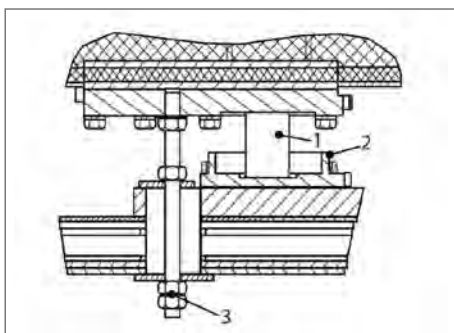

Figure 76
5. To verify that the weighing cell (Fig. 76 | 1) is actually standing free, slightly wiggle on the safety cable between weighing and the support piece (see Fig. 76 | 2) of the Palletank®.
6. Secure the threaded rod below the tank frame using two nuts (Fig. 76 | 3).